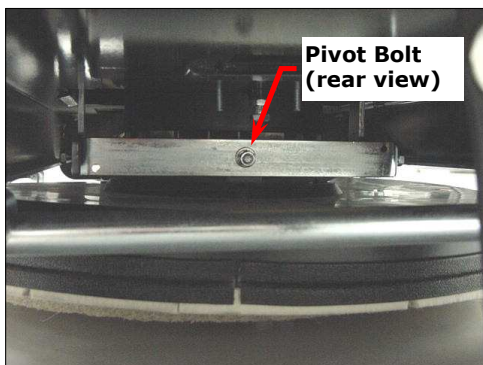

Figure 5a – Pivot Bolt (rear view)
5. See Figures 5a and 5b. Loosen the pivot bolt and the hardware holding the motor mount to the motor frame.
7. See Figures 5a and 5b. Tighten the pivot bolt and the hardware holding the motor mount to the motor frame.